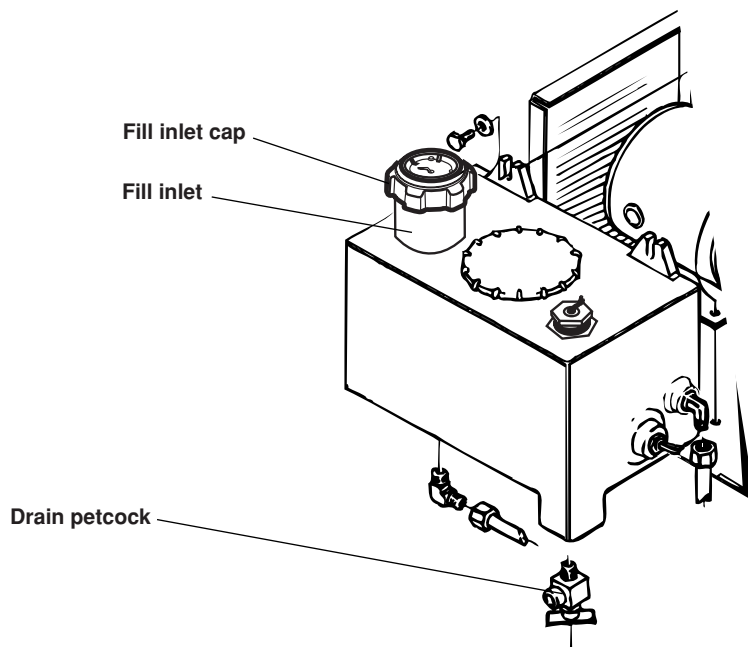

Figure 5-8 Coolant Tank Reservoir Drain Petcock Location
3. Drain the power supply reservoir by opening the petcock on the bottom of the reservoir tank. Close petcock after coolant is drained. See Fig. 5-8. On older systems, there is either no petcock, or the petcock is in a different position than the one shown in the figure above. Siphon coolant out of the tank through the fill inlet if there is no petcock.